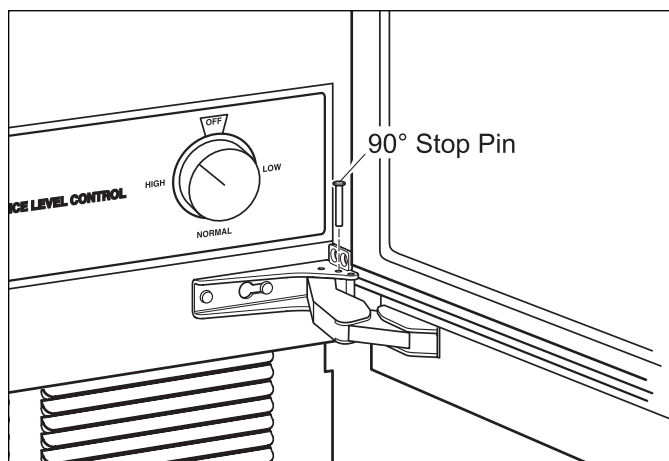

Figure 2-10. 90° Door Stop Pin at Bottom Hinge
2. Insert 90° stop pin down through holes in bottom hinge bracket. (See Figure 2-10)